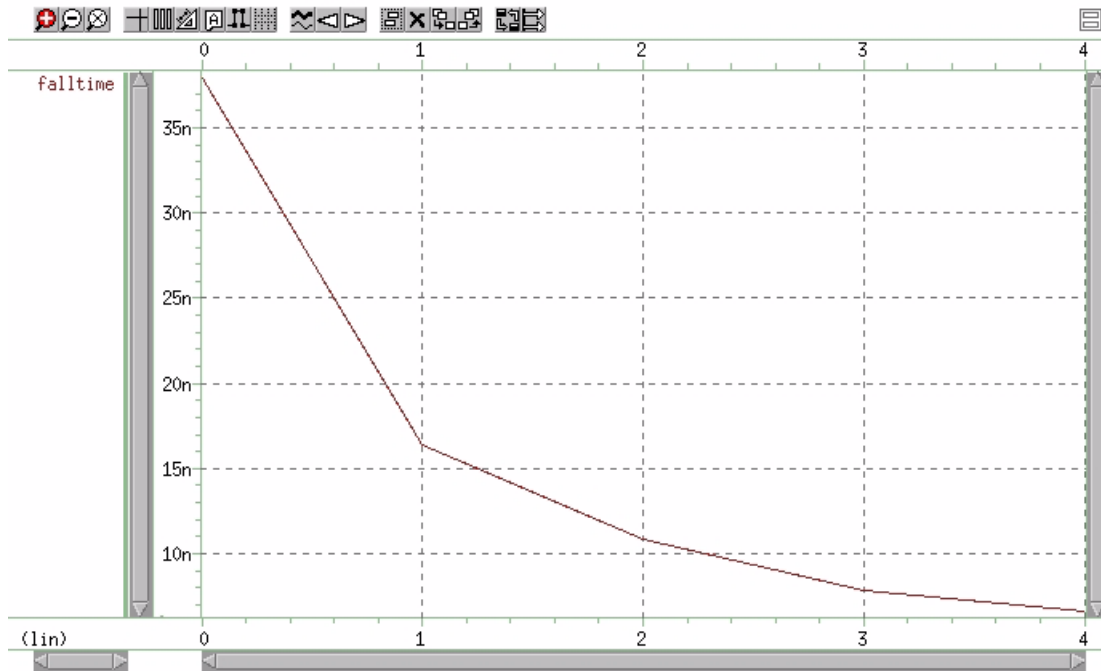

Figure 240 Plot of Measured Variable *falltime* vs. Amplifier Input Voltage
7. Repeat Step 5 to plot $v(clamp)$. You should see a plot similar to the one shown in Figure 240.
17. Left-click on the signal *falltime*. Drag and drop the selected signal into the WaveView panel. You should see a plot similar to the one shown in Figure 240 on page 924.